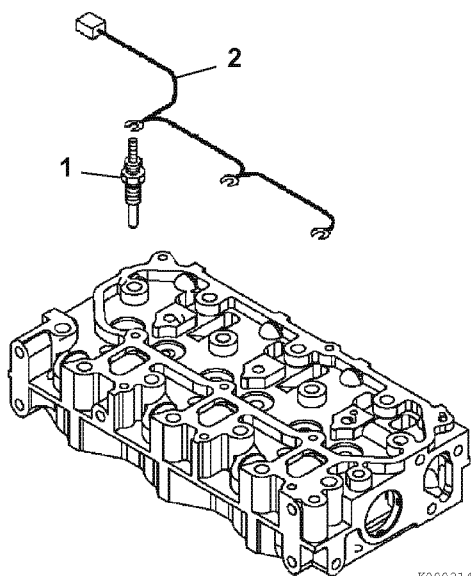

Figure 6-33
1. Reinstall the glow plugs (1, **Figure 6-33**) and tighten to specification. Reinstall the electrical harness (2, **Figure 6-33**).